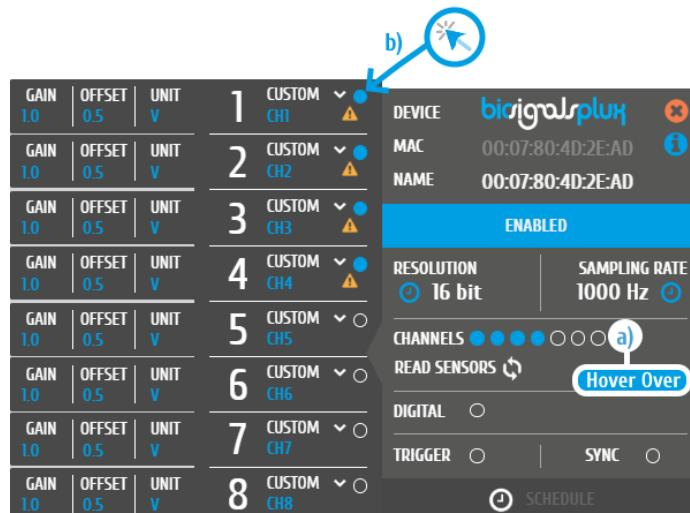

Figure 50: Channel configuration.
a) Hover over the *CHANNELS* field to open the list of available channels, **b)** activate or deactivate channels by clicking on the circles which are placed on the *CHANNELS* field or next to each single channel. Active channels are marked with blue circles, while inactive channels are marked by empty circles (e.g. in Figure 50 channels 1-4 are active, while channels 5-8 are not). Note, that if you have no sensor specific type selected for an active channel, a warning sign will appear on the respective channel (seen in the image below).
If a channel is activated, but no selection of sensor type has been made, the warning sign will be displayed on the selected channel as seen in Figure 50 (only in *OpenSignals (r)evolution* versions of June 2018 and newer).